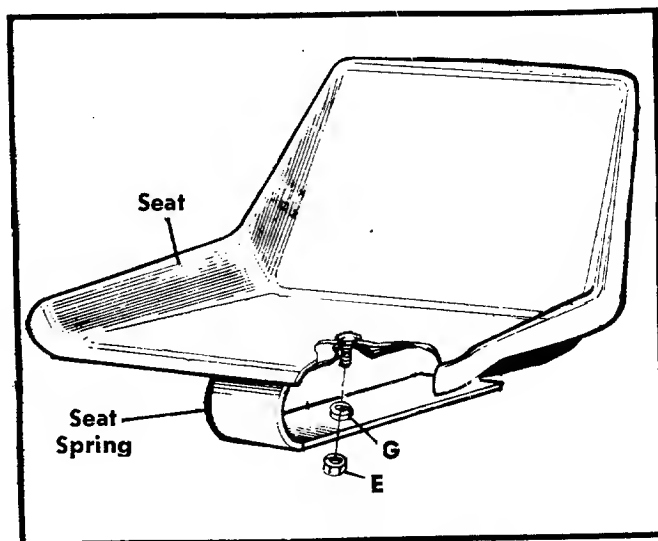

FIGURE 6. SEAT ASSEMBLY
Step 10. Assemble the seat to the seat spring with lockwasher G and nut E. See figure 6. The seat is adjustable to one of three positions.